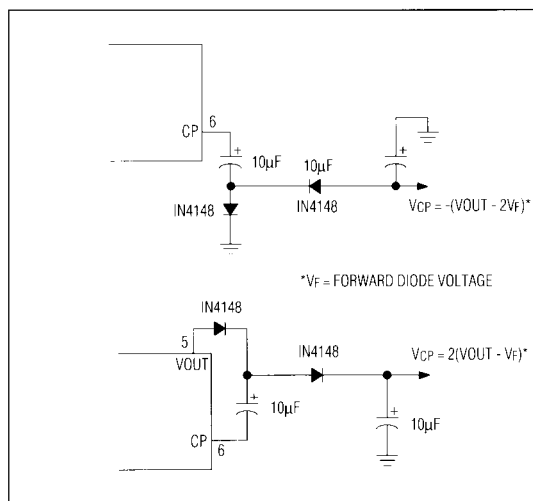

Figure 3. Using the Charge Pump (CP) output as a voltage inverter and/or doubler. Both circuits can be used together.
| 6   | CP   | The Charge Pump output is a low impedance buffer which swings from GND to VOUT at the oscillator frequency. 2 external capacitors and diodes can be connected to generate a negative output voltage (Figure 3).                                                                     |
The Charge Pump (CP) output is a low impedance buffer which swings from ground to VOUT at the oscillator frequency. Two external capacitors and diodes can be connected, as shown in Figure 3, to generate a negative output voltage of -(VOUT - 1.2V) or a positive output of 2(VOUT - 1.2V). 1.2V is the forward drop of 2 silicon diodes. Both circuits can be used at once if desired. With 10µF capacitors, the output impedance of VCP is about 30Ω. If space is critical, the capacitors can be reduced, but with a slight increase in output impedance and VCP output ripple.